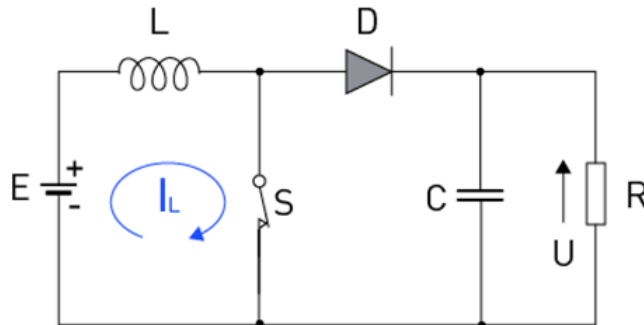

Figure 2: Boost Converter Topology
- **Telecommunications:** Similar to battery-powered devices, telecommunication applications use boost converters to provide stable output voltage from lower input voltages. Boost converters can be utilized in base stations and help radio frequency (RF) transmitters operate reliably, with these transmitters including RF remote controls.
Figure 2 shows a standard boost converter topology. In this figure, the magnetic energy from the inductor (L) transfers energy from the lower voltage source ( $V_{IN}$ ) to a higher voltage source for  $V_{OUT}$ . A switch (S) is turned on to connect the inductor to the power supply (E). E forces the inductor current ( $I_L$ ) to rise so that it can charge  $V_{IN}$ .